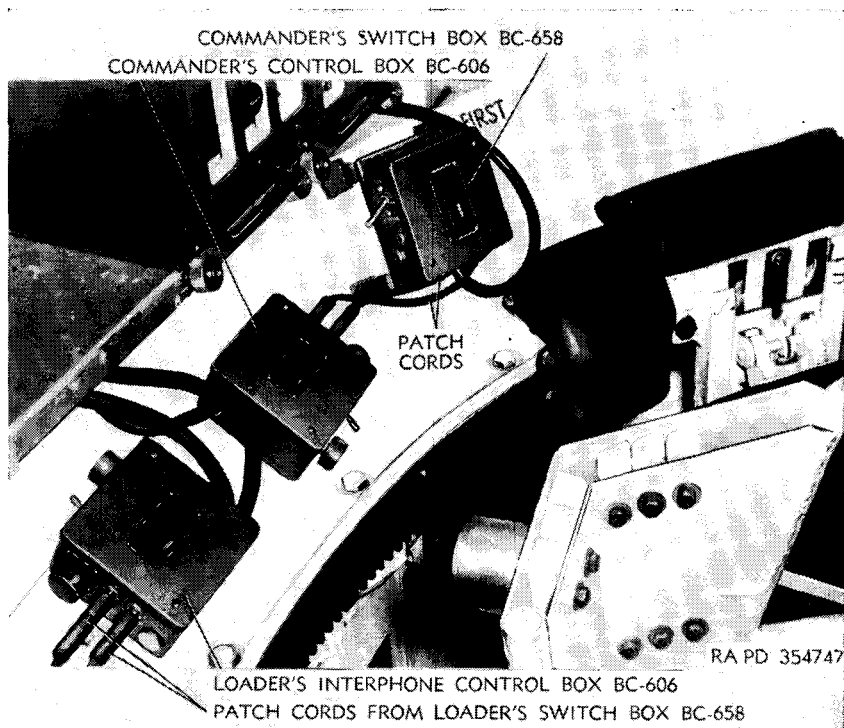
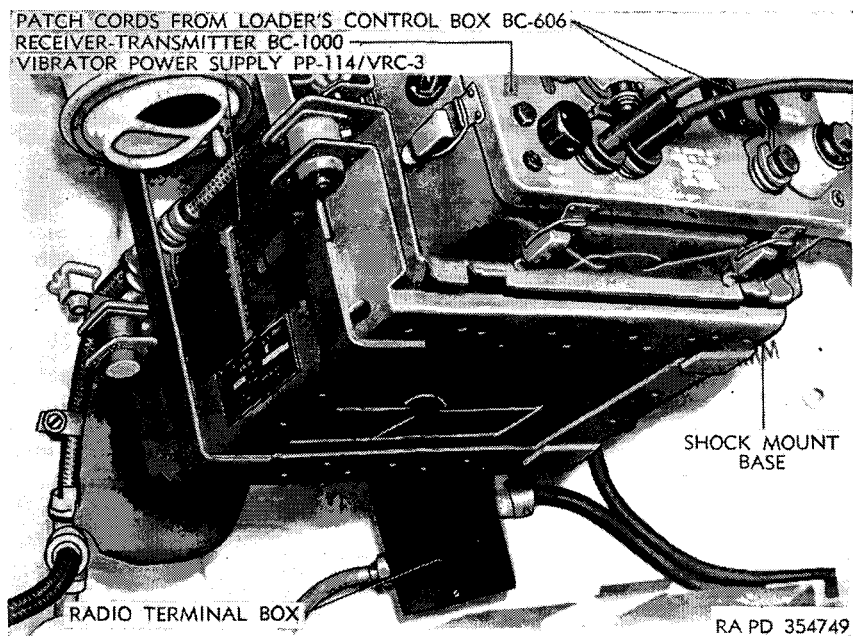
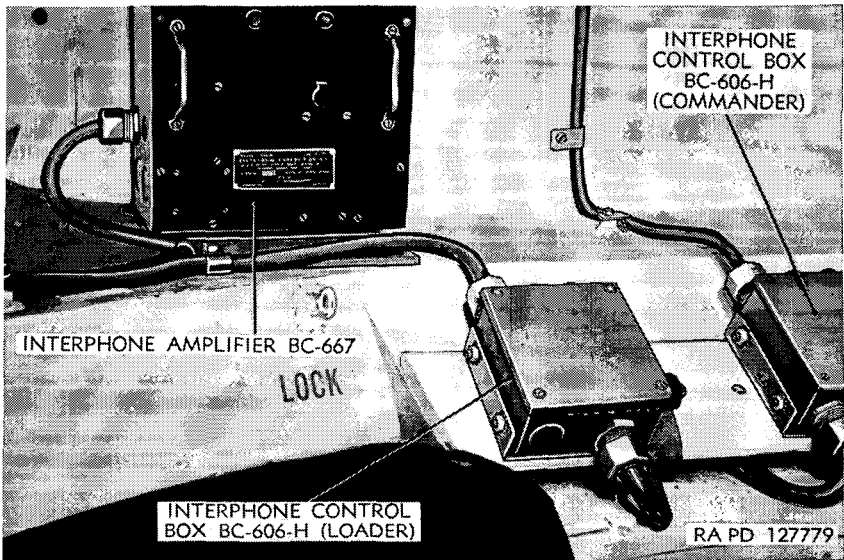

Figure 206. Radio-interphone control units at rear of turret.
Figure 207. Radio set AN/VRC-3.
Figure 210. Interphone amplifier BC-667 and interphone control box BC-606-H in turret overhang.
a. GENERAL. Radio set AN/VRC-3 (fig. 207) is the vehicular adaptation of the standard infantry pack type radio communication set known as the "walkie-talkie." It is a two-way set, receiving and transmitting, consisting of a transmitter and receiver in one case. It is used for communication in combat areas between tanks and ground troops.
commander and loader to switch their microphones and headsets from the AN/VRC-3 to the interphone system installed in the tank. The commander's switch box (fig. 206) is located on a bracket just forward of the turret overhang and the loader's switch box is located on the right wall of the turret. The switch boxes connect to the regular interphone boxes by means of patch cords plugged into the jacks on the control boxes. The loader's switch box has another pair of patch cords which connect to the AN/VRC-3 (fig. 207). A transformer is wired into the cord leading to the "Phones
- (1) If the vibrator power supply unit is installed (fig. 207), disconnect the power cord from the vehicle radio terminal box and remove cable clips.
- (2) Disconnect the plugs from the jacks on the panel of the radio set.
- (3) Disconnect the antenna lead-in cable. If an antenna matching transformer is used, the cable is disconnected by turning the coupling nut on the lead-in plug in a counterclockwise direction. When the antenna matching transformer is not used, the antenna lead-in cable is disconnected by unscrewing the $\frac{3}{8}$ -inch hex head screw in the antenna socket.
- (4) Loosen the two wing nuts which secure the metal strap to the mounting and remove the strap.
- (5) Remove the radio set from the mounting.
- (6) Remove switch box BC-658-A or B by removing the box cover and removing the three screws which secure the box to its bracket. Switch box BC-658-C is removed by loosening the four hex nuts on the sides of the box.
- (7) Remove cable clips securing the interconnecting cordage and patch cords. Remove both boxes together with the cordage.
- (3) Pressing the button of any of the microphone switches should start the dynamotor of the radio transmitter. Interphone communication should be checked between one box and all other boxes, in turn, by speaking into the microphones at a normal voice level.
- (4) The commander's control box (fig. 206) is the only box wired for radio transmission in addition to interphone transmission. To talk on the interphone, the commander presses his microphone switch. To operate the radio transmitter, first press one of the channel selector push buttons on the transmitter turning panel, hold the radio-interphone switch in the radio position, then press the button of the microphone switch before speaking into the microphone. When the radio-interphone switch on the interphone control box is released, the commander's microphone and headset are automatically switched to the interphone system.
- (5) At the crew member's positions, pressing the button of the microphone switches should cut off radio transmissions and permit communication to the commander over the interphone system. Releasing the switch reopens the radio circuit.
- (6) The commander must set the switch on his switch box BC-658 to "RADIO" to use the AN/VRC-3 or to "INT" to use the SCR-508 and SCR-528.
d. DESCRIPTION OF INTERPHONE EQUIPMENT RC-99. This interphone system consists of an interphone amplifier BC-667, a mounting bracket and five interphone control boxes BC-606 type, interphone cordage CO-213 and microphone, and headsets. The interphone amplifier BC-667 is secured to the mounting which in turn is secured to the radio shelf in the turret overhang (fig. 210). The interphone control boxes are installed in same locations as for radio set SCR-508. The removal and installation procedure for interphone equipment RC-99 is similar to that of the interphone equipment of radio set SCR-508 (par. 249*c* and *d*). Interphone amplifier BC-667 is detached by removing eight screws near the edge of the front panel and removing the four screws holding the cabinet to the mounting bracket in the vehicle.